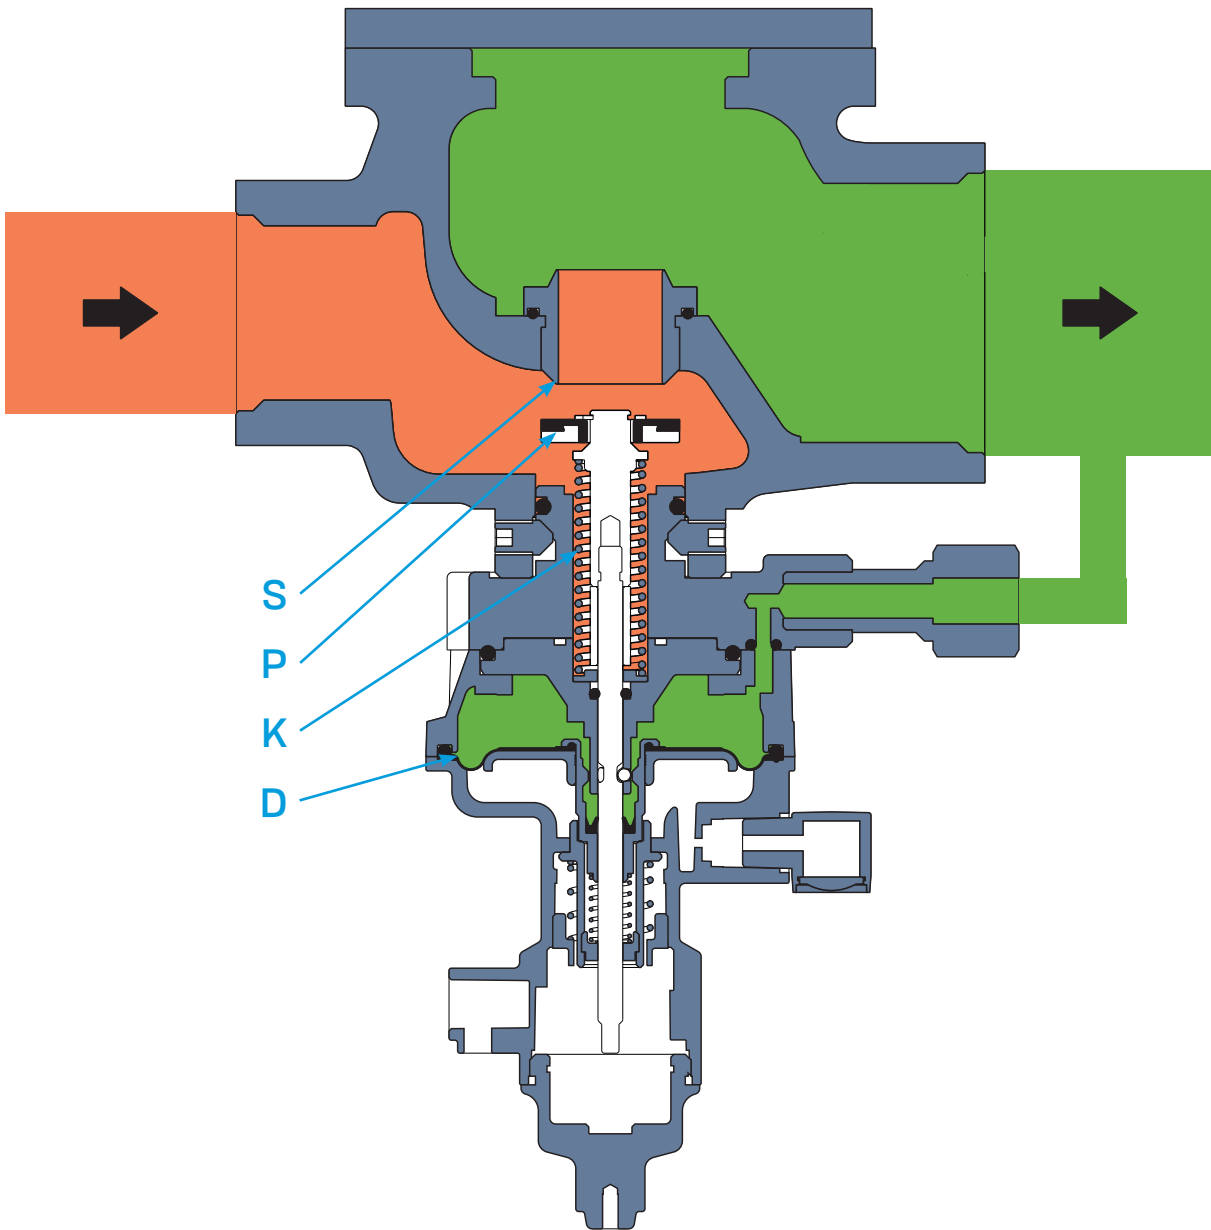

Figure 1: S26-VDB75/150/600 Schematics
The device is held in the open position by a system of ball bearings that, when positioned as shown in Figure 1, holds the plug in the open position. When the sensed pressure increases or decreases, the movement of the diaphragm (D) releases the ball bearings which allows the plug (P), under the action of the spring (K) to stop the flow of gas by sealing against the seat (S).